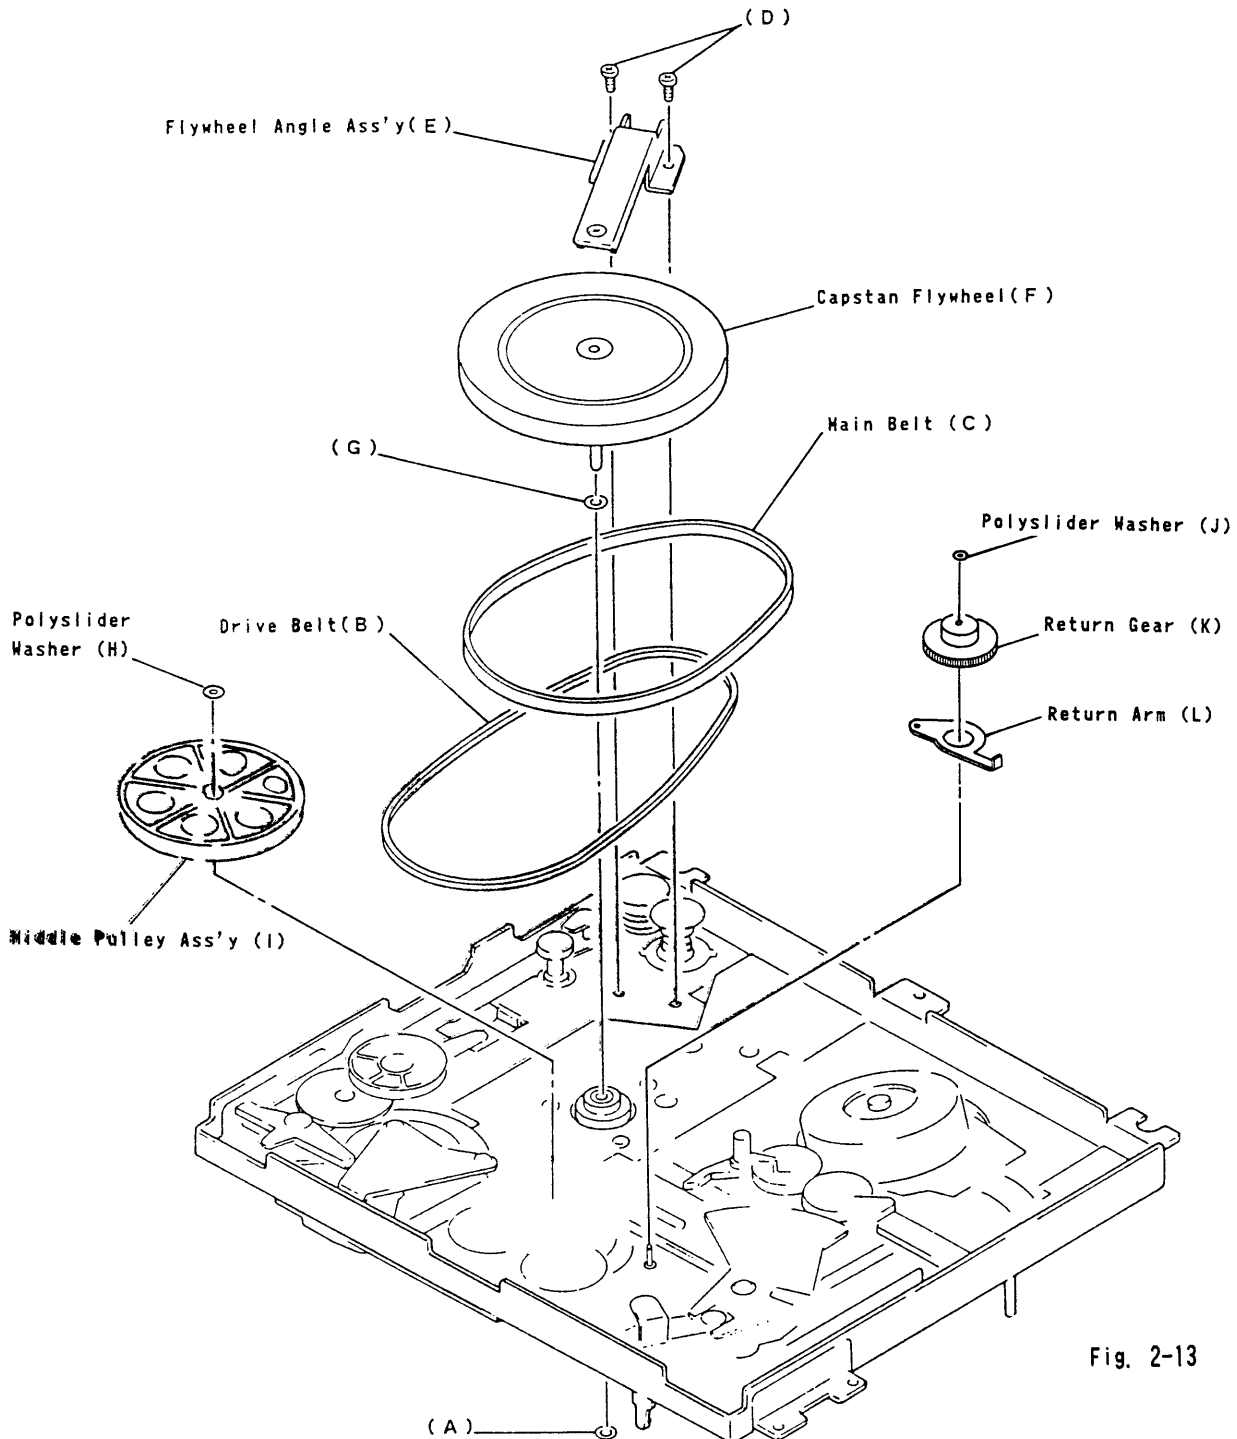

Fig. 2-13
(13) Capstan Flywheel / Return Arm (Fig. 2-13)
Do not lose the Washer (A) and (G) when pulling out the Capstan Flywheel. (Fig. 2-13)